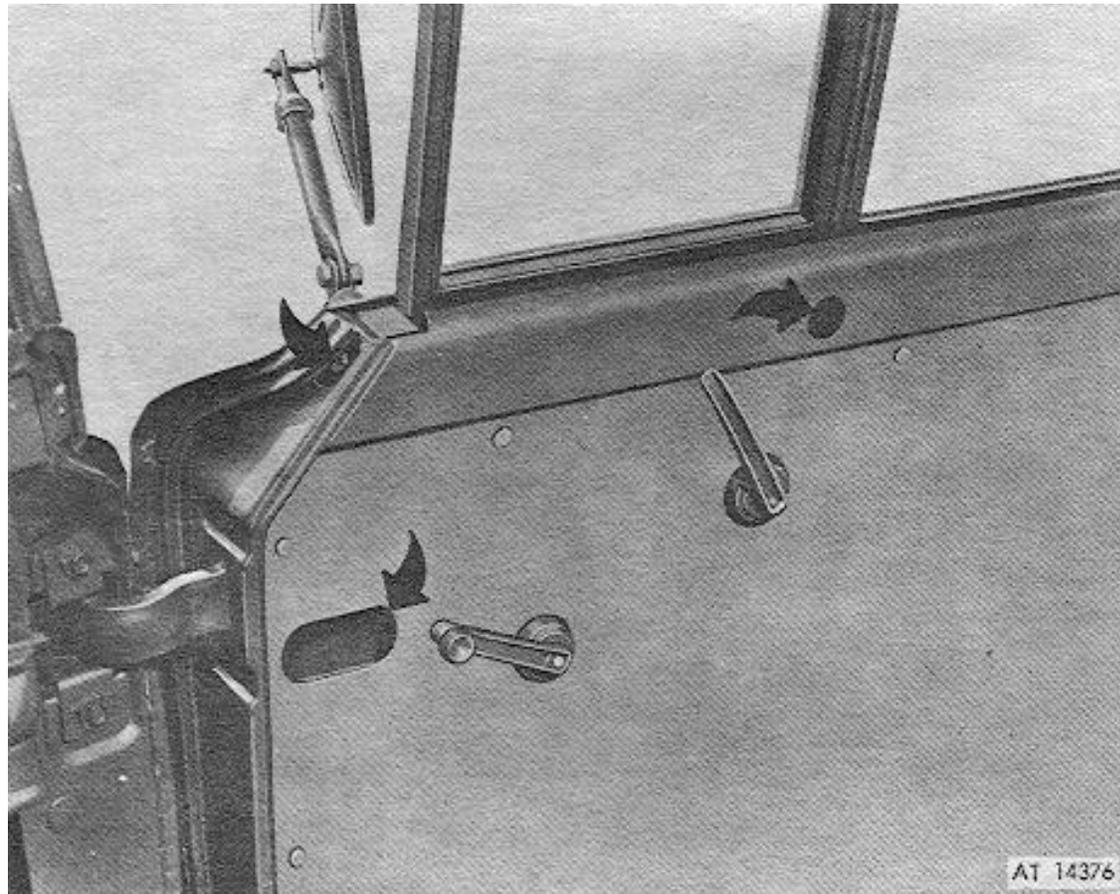

Figure 15 Fixed window glass screws.
5. Remove three screws attaching the channels of each door fixed window glass to the door. Screw locations are shown in figure 15. Lift fixed glass upward and out of door. Replace screws in channels for storage.